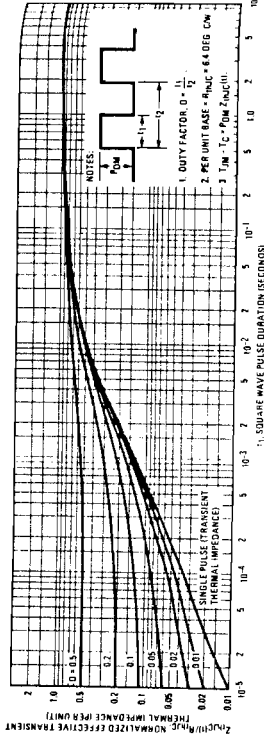

Fig. 5 - Maximum Effective Transient Thermal Impedance, Junction-to-Case Vs. Pulse Duration
①  $T_J = 25^\circ\text{C}$  to  $150^\circ\text{C}$ . ② Pulse Test: Pulse width  $\leq 300\mu s$ , Duty Cycle  $\leq 2\%$ .
③  $K_{WM} = 10W$ . ④ Intrinsic turn-on time is negligible. Turn-on speed is substantially controlled by  $L_S$ .
⑤ See Transient Thermal Impedance Curve (Fig. 5).